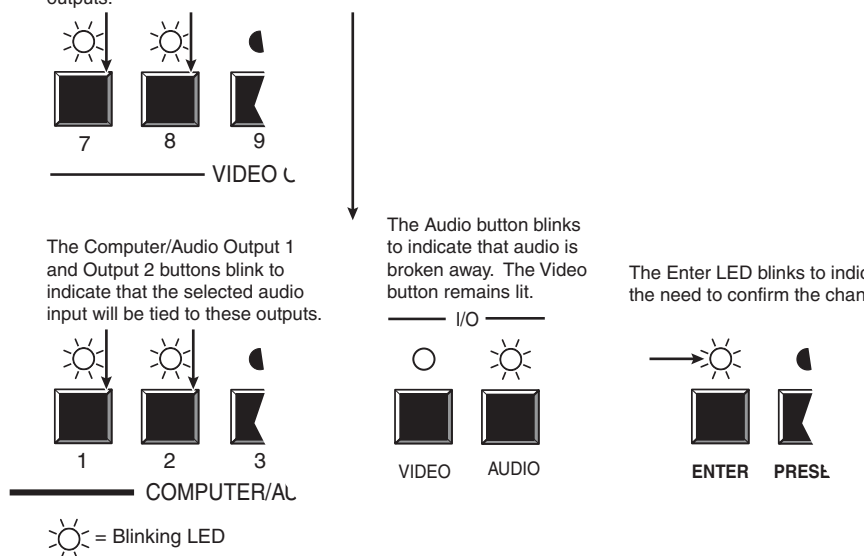

Figure 3-24 — Select the outputs
4. Press and release the low resolution Output 7 and Output 8 buttons (figure 3-24).